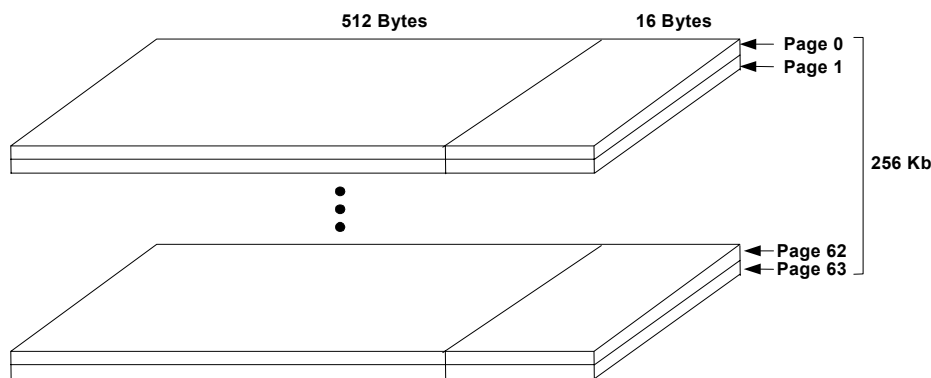

Figure 13: Block Structure
- **Block** – Each block contains 64 pages (total of 256Kb), as shown in Figure 13. A block is the minimal unit that can be erased, and is sometimes referred to as an erase block.